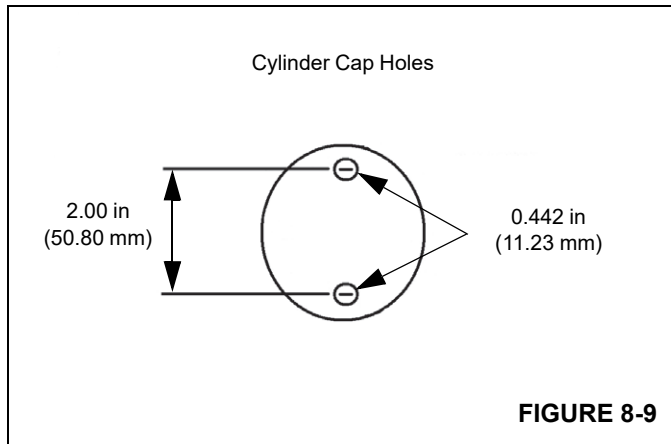

FIGURE 8-9
- Remove the cylinder caps from the housing. Remove and discard the O-rings (Figure 8-9).